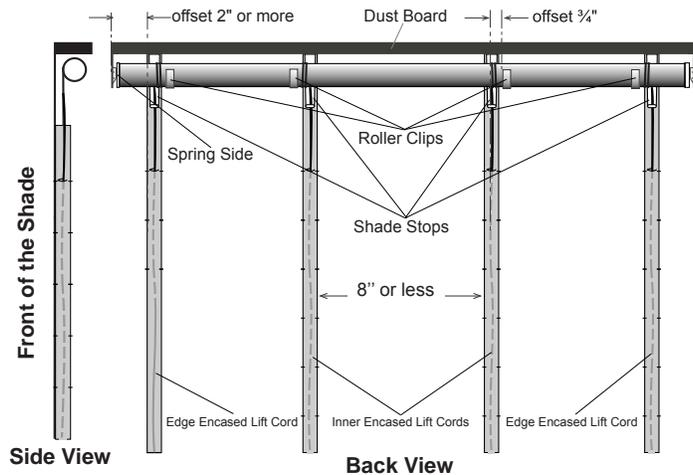

Fig. 1 A Soft Shade Roller Spring System
The **Soft Shade Roller Spring System** is designed to create an improved soft shade that is control-cord free and eliminates the need for a bead chain or drive cord making the system more child-safe. It manually raises or lowers soft shades by using Lift Bands or Roller-Clips to attach the lift cords to the roller. **The total weight of the shade should be less than 5 lb.** This should be fine for most shades that will fit single width and double width hung windows. Fig.1 shows the back view of an assembled soft shade roller spring system with 4 Roller-Clips on the roller when the shade is all the way down.
**Encased Lift Cord Shroud Tape Arrangement** (see Fig. 1): The shade can be made with Encased Lift Cord on the edge or well inside the edge of the shade. It is important to consider the Encased Lift Cord location and spacing before you attach the Encased Lift Cord to your shade. **Recent Industry child safety guidelines recommend a 2" offset between the edge of the shade and the edge of the Encased Lift Cord.**
**Roller Clip Arrangement** (see Fig. 1): The roller clips should be  $\frac{3}{4}$ " offset from the lift cords. The roller clips should be mounted to the left and right of the lift cords alternately across all inner lift cords. Otherwise the shade may creep to one side when raised.
**Step 6.** Lay the shade totally flat and face down on your work table for front mounted shade as shown in Fig. 1. Position the dustboard at the top of the shade. Ensure the spring insert end of the roller is located on the left side of the shade as shown in Fig. 1. If the fabric is to be mounted to the back of the dustboard, the spring insert needs to be on the right side of the shade. Install the appropriate brackets to the correct location on the dustboard. Be sure the bracket with the end plug and roller spring insert are located on the correct side.
**Step 8.** Mark the locations of your roller clips. Be sure to offset and alternate the locations of the clips as shown in Fig. 1. Once the clip is attached to the roller, it will not slip or pop off. Put clips at the locations marked on the tube. You may insert a screw driver underneath the clip and lift it slightly for small position adjustment. Lastly, be sure all clips are aligned when you look down the shade roller.
**Step 9.** Temporarily install your dust board on the wall so that you can access the back side. Insert the roller end plug pin into the end plug side bracket and slide the spring end blade into the Spring Bracket as shown in Fig. 5 and Fig. 1. Let all the lift cords hang down, and turn roller clockwise two full turns so that all the lift cords wrap around the roller at least two full rounds. Make sure all lift cords are hanging down inside the roller close to the shade.